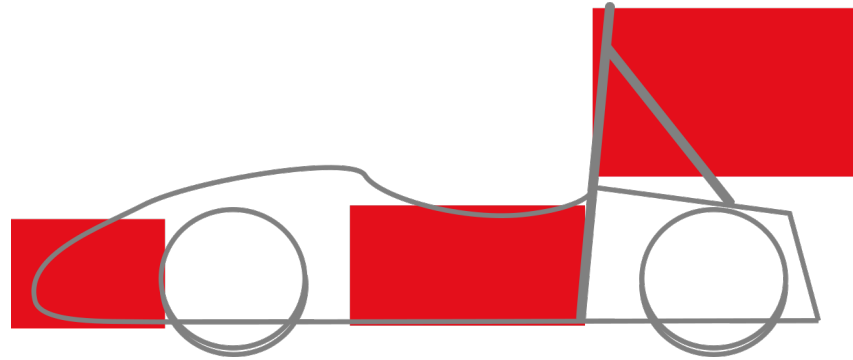

Figure 1: RFID Tag Placement Areas
- DE4.14.1 In order to have the car be identifiable during dynamic disciplines, Timekeeping will stick three RFID tags to the car. There will be one tag on the front, center and rear of the vehicle. They will all be on the left side (as shown in figure 1).